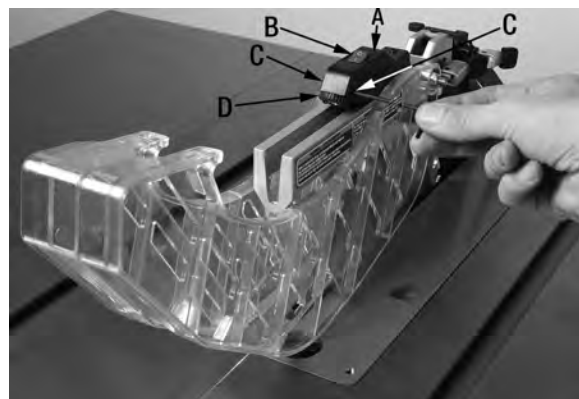

FIGURE 38
This Table Saw is equipped with a laser guide (A) Fig.38 which indicates the cut line. To use the laser guide, press the laser switch (B) towards the front to turn it on. If the laser guide does not appear to be in line with the cut line of the blade, an adjustment can be made:
- 1) Loosen both set screws (C) Fig.38 on each side of the laser guide using a hex. key, turn the laser guide adjustment dial (D) until the laser guide is perfectly aligned with the blade. Retighten both set screws.